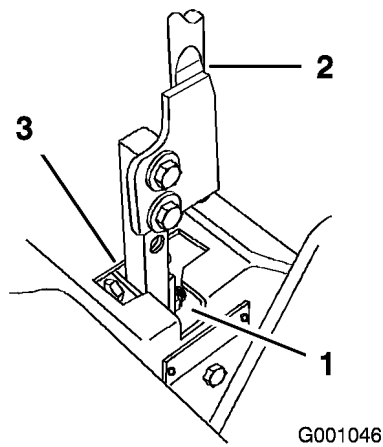

Figure 56
- Move the lever to the neutral position but not locked (Figure 56).
6. Pull the lever back until the clevis pin (on arm below pivot shaft) contacts the end of the slot (just beginning to put pressure on the spring) (Figure 56).
7. Check where the control lever is relative to notch in console (Figure 56). It should be centered allowing lever to pivot outward to the neutral lock position.